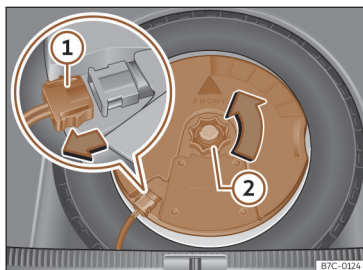

Fig. 241 In the luggage compartment: remove the subwoofer.
- Disconnect the subwoofer's speaker cable >>> **Fig. 241 ①**.
- Turn the securing wheel anti-clockwise >>> **Fig. 241 ②**.